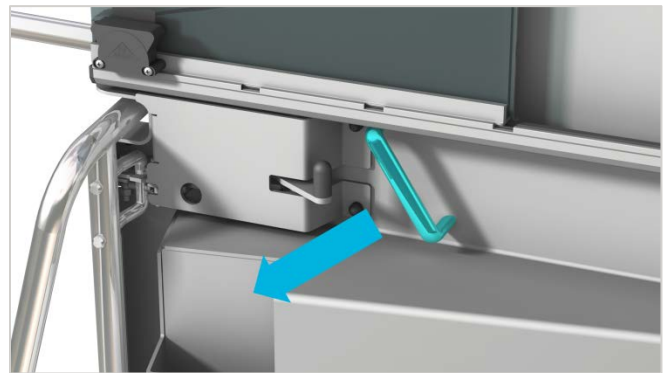

Figure 2 – Grip handle and firmly pull to engage latch.
1. To close door, grip handle as shown in **Figure 2** and firmly pull door closed to engage slam latch.